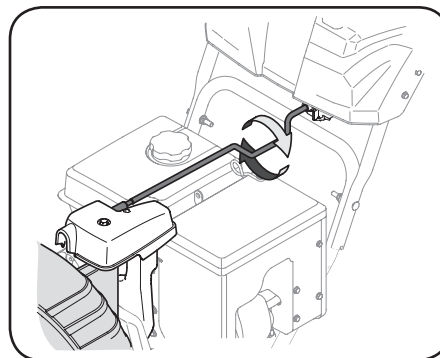

Figure 3-10
- Grasp indented portion of chute control rod and manually rotate chute assembly to the right or to the left. See Figure 3-10.